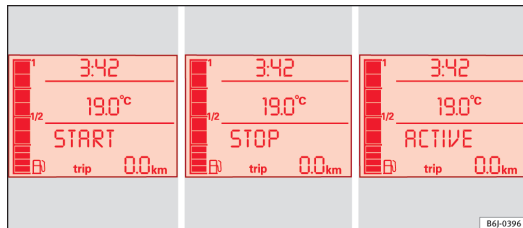

Fig. 115 Display on the instrument panel during Start-Stop function operation.
- The instrument panel display shows information about the status of the Start-Stop function ⇒ Fig. 115.